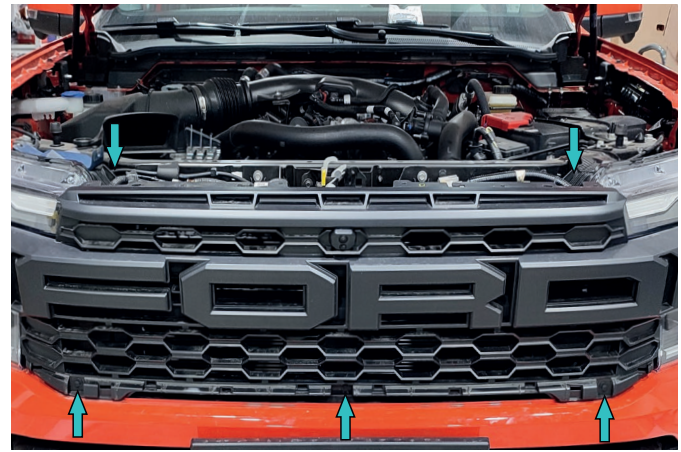

Fig.82
77. Install factory radiator grille and fix in using factory bolts. Connect the front camera washer tube and Connect the front camera (fig.82).